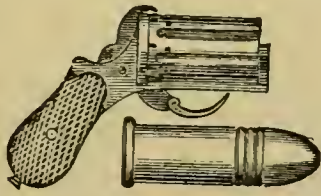

Fig. 71.—Fist Revolver.
M. Lefauchaux has the credit of bringing out the first breech-loading revolver. The first specimens of the Lefauchaux pin cartridge case were made of paper with metal bases, similar to the gun cartridges. The next improvement was the solid metal case, with a bullet fixed in it, making it waterproof. We give several illustrations relating to this kind of revolver. Fig. 71 is called a Fist Revolver.